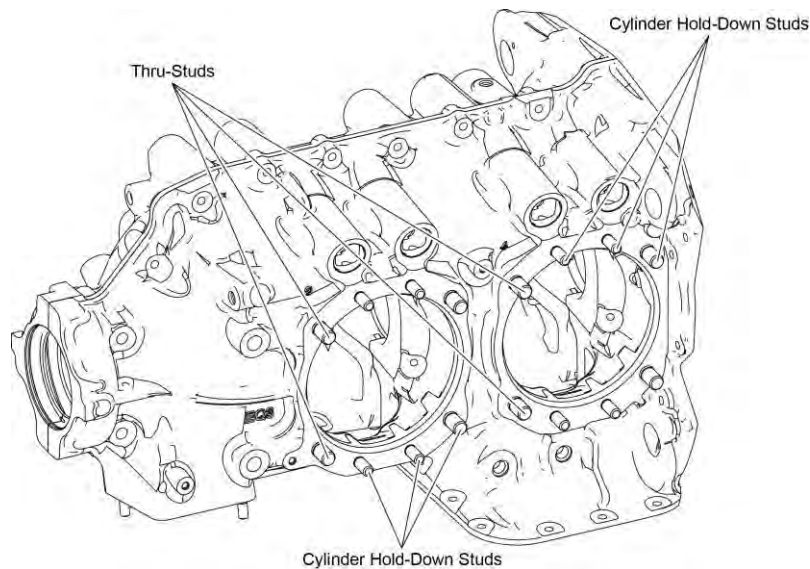

Figure 15
- D. Lubricate the crankcase thru-stud threads and cylinder hold-down stud threads (Figure 15) with Food Grade Anti-Seize on the outer three threads.